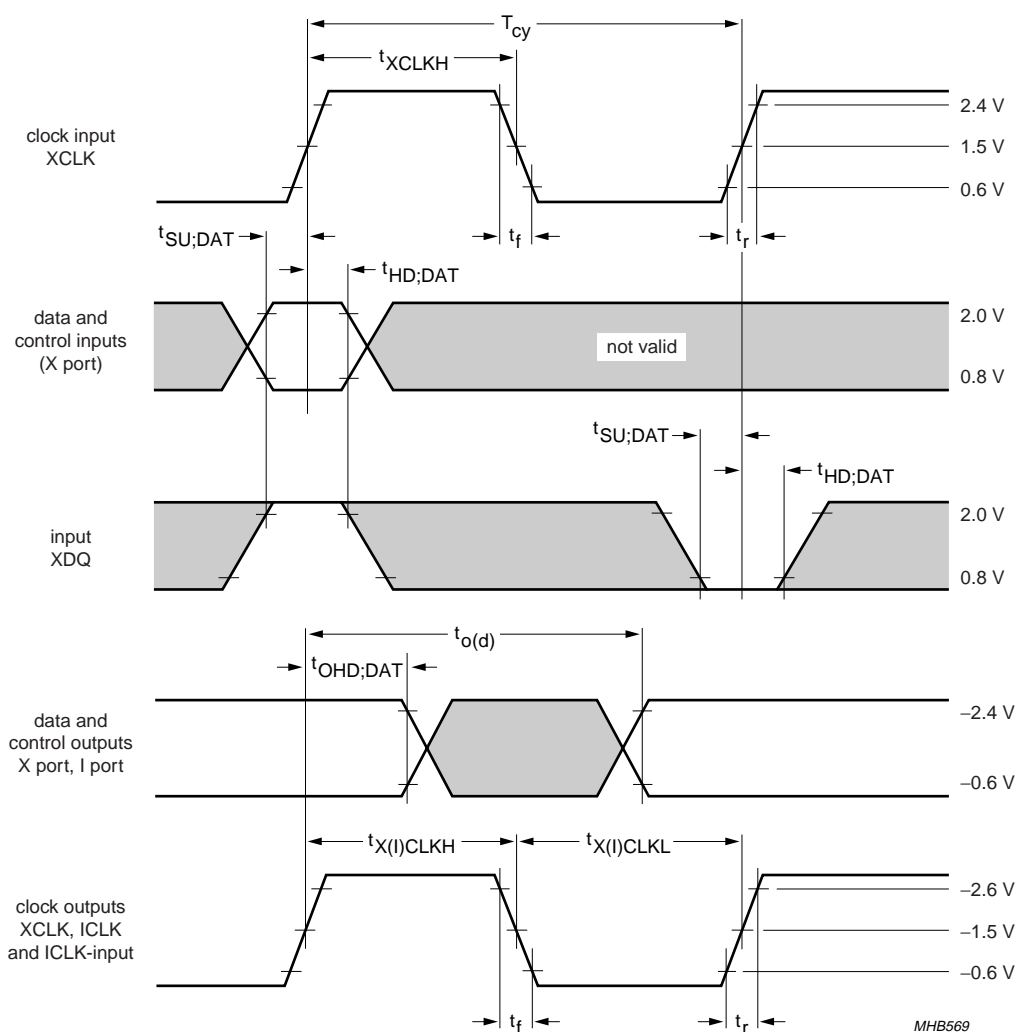

Fig.39 Data input/output timing diagram (X-port, RT port and I-port).
2. The effects of rise and fall times are included in the calculation of $t_{OHD;DAT}$ and t_{PD} . Timings and levels refer to drawings and conditions illustrated in Fig.39.